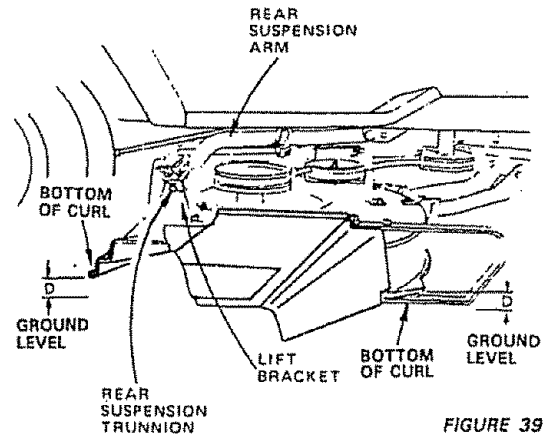

FIGURE 39
- a. To obtain the best cutting results, your mower housing should be adjusted so the front and rear flange distance "D" (Fig. 39) is 1/2" lower in front when the mower is positioned in the highest cutting position. NOTE: MEASURE DISTANCE "D" FROM GROUND LEVEL TO BOTTOM OF CURL ON RIGHT REAR FLANGE AND COMPARE TO DISTANCE "D" AT RIGHT FRONT FLANGE.